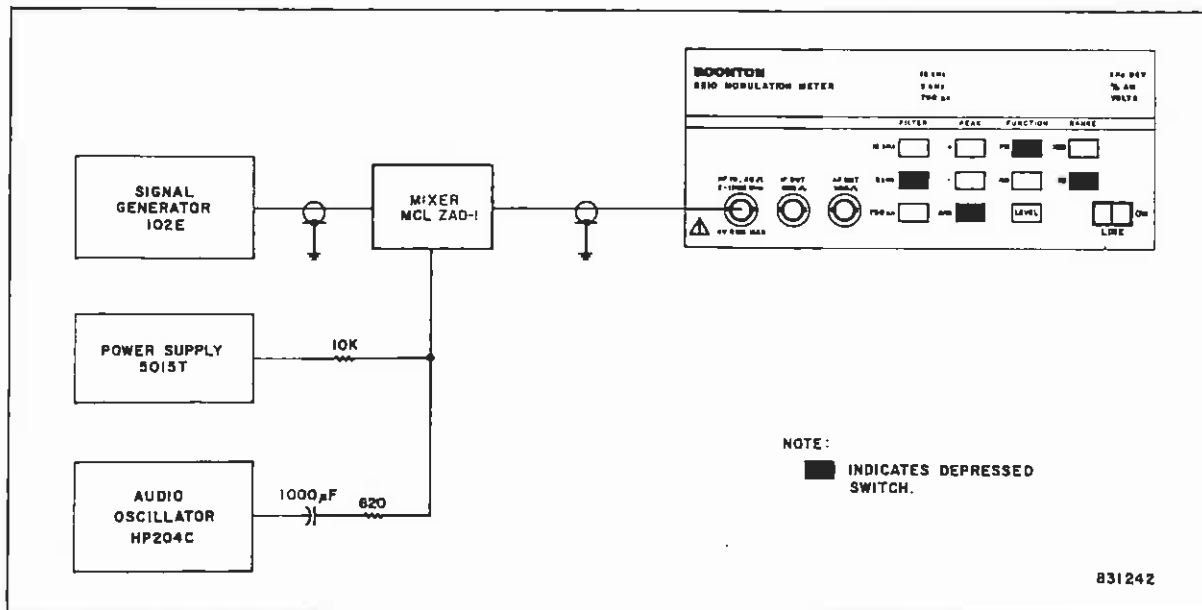

Figure 2-8. Test Setup: A.M. Rejection, A.M. Frequency Response, and A.M. Audio Distortion
- (1) Connect the 8210 and test equipment as shown in Figure 2-8.
- (2) Set the 8210's controls as shown in Figure 2-8.
- (3) Apply a 30 MHz signal, at 0 dBm, from the generator to the mixer.
- (4) Adjust the power-supply output voltage to +10 V d.c. Adjust the audio source for approximately 50% indicated a.m. at a 1 kHz rate.
- (5) Change the 8210's FUNCTION to FM.
- (6) Vary the r.f. level between 0 and +10 dBm for a deviation null. The display should indicate less than 100 Hz peak f.m. (Residual noise-modulation must be subtracted.)
NOTE: Step 2-6f, the A.M. Rejection check, should be completed before performing this verification. Leave the equipment set up as in Figure 2-8.